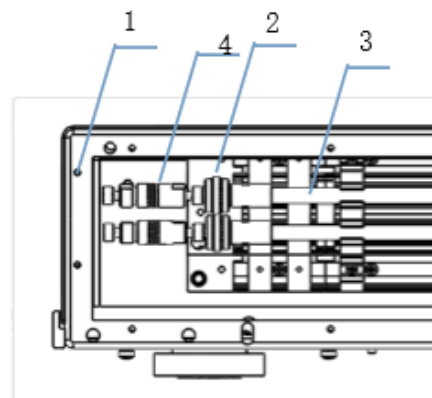

Fig. 2 Schematic diagram of LJ02 connector Using
3.2 Connect the protective column with the chromatograph column as shown in Figure 2. When connecting, top the connecting pipe to the bottom and tighten the screws respectively to prevent leakage.